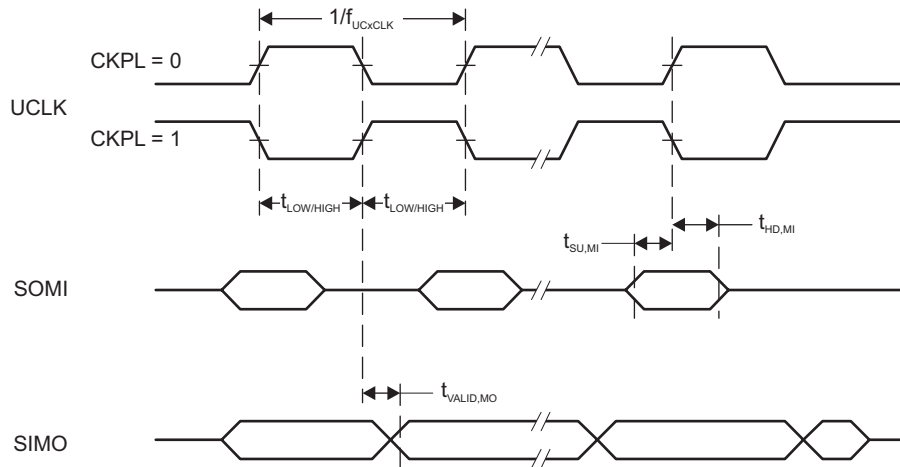
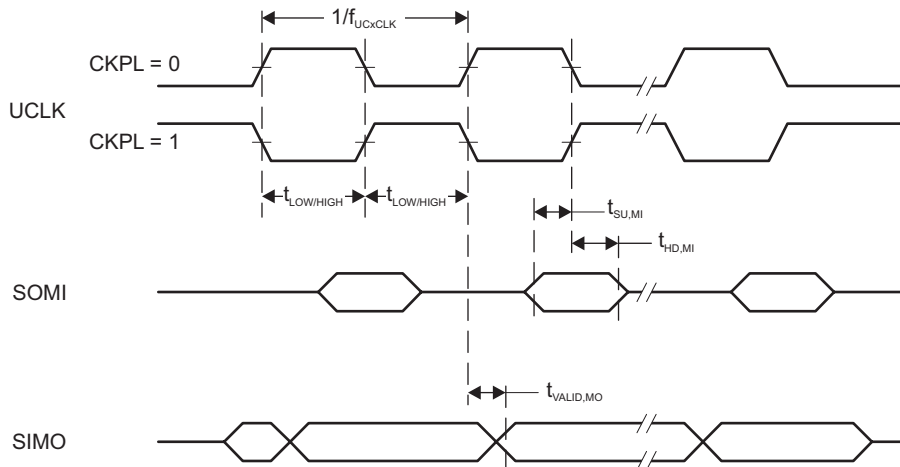

Figure 5-23. SPI Master Mode, CKPH = 0
Figure 5-24. SPI Master Mode, CKPH = 1
over recommended ranges of supply voltage and operating free-air temperature (unless otherwise noted)(1) (see Figure 5-23 and Figure 5-24)
(2) Specifies the time to drive the next valid data to the SIMO output after the output changing UCLK clock edge. See the timing diagrams in Figure 5-23 and Figure 5-24.
(3) Specifies how long data on the SIMO output is valid after the output changing UCLK clock edge. Negative values indicate that the data on the SIMO output can become invalid before the output changing clock edge observed on UCLK. See the timing diagrams in Figure 5-23 and Figure 5-24.